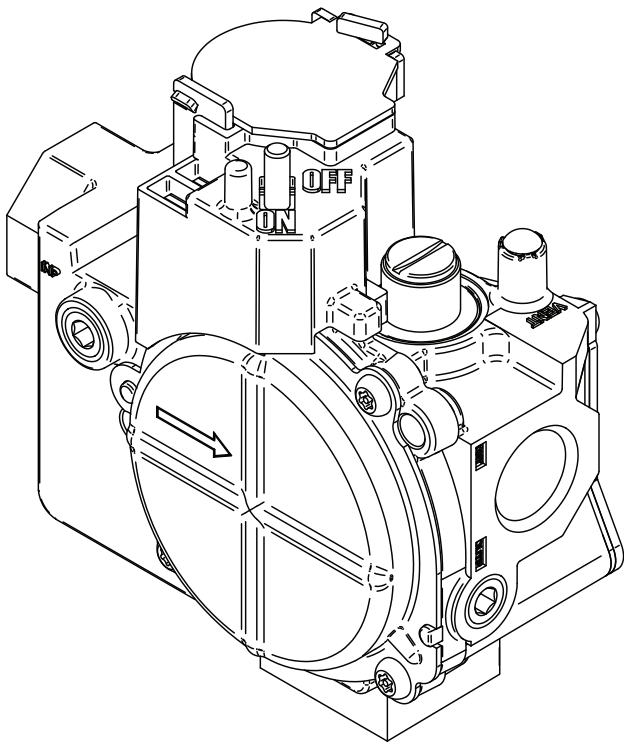

Fig. 42 – Gas Control Valve
- b. Remove manifold pressure tap plug from gas valve. (See Fig. 42.)